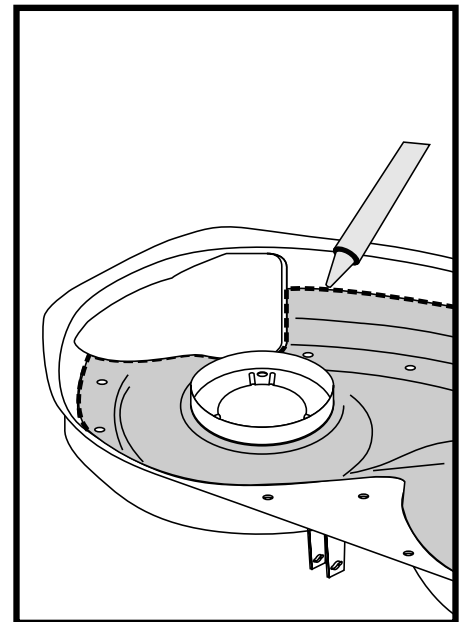

FIG. 3
10. Apply a bead of sealant all around the liner outer lip per illustration. See FIG 3.